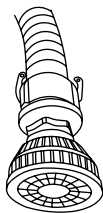

Fig. 11
5. Place a filter / strainer (not included) onto the end of the rigid suction hose (Fig. 11), before placing the hose into the water. *NOTE:* The total lift from the filter / strainer to the level of the manifold must not exceed 25 feet (7.6 meters).